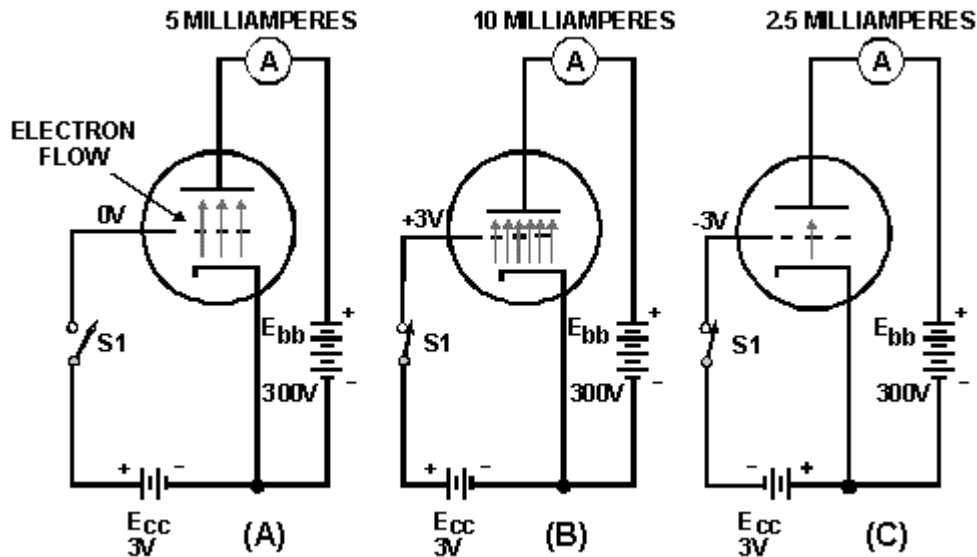

Figure 1-15.—DeForest's experiment.
In his next attempt, De Forest decided to change the element between the cathode and the plate. Instead of a solid metal plate, he used a wire mesh. This would allow electrons to flow from the cathode, **THROUGH THE WIRE MESH**, to the plate. This tube circuit is shown in figure 1-15. In view (A) you see De Forest's circuit with 0 volts applied to the third element, (today called a control grid or occasionally just the grid). Under these conditions, assume that the ammeter reads 5 milliamperes. With no voltage applied to the grid, the grid has little effect on the electron stream. For all practical purposes, the control grid is not there. Most electrons flow through the open mesh. The tube functions as a diode.
DeForest had certainly hit on something. Now the problem was to find out what would happen when a negative potential was applied to the grid. This is shown in view (C) of figure 1-15. When De Forest applied -3 volts to the grid, he found that plate current decreased to half of what it was when the grid had no voltage applied. The reason for this is found in the principle of "likes repel." The negatively charged grid simply repelled some of the electrons back toward the cathode. In this manner, the attractive effect of the plate was decreased, and less current flowed to the plate.
The circuit is identical to the one in figure 1-15 except that now a resistor (called a plate-load resistor,  $R_L$ ) has been added to the plate circuit, and a voltmeter has been added to measure the voltage drop across  $R_L$ .
Let's take another look at the circuit in figure 1-15(B). We found that the positive charge on the grid caused more plate current to flow. However, when the grid becomes positive, it begins to act like a small plate. It draws a few electrons from the space charge. These electrons flow from the cathode across the gap to the positive grid, and back through the external grid circuit to the cathode. This flow is known as *grid current*. In some tube applications, grid current is desired. In others it is relatively harmless, while in some, grid current causes problems and must be eliminated.